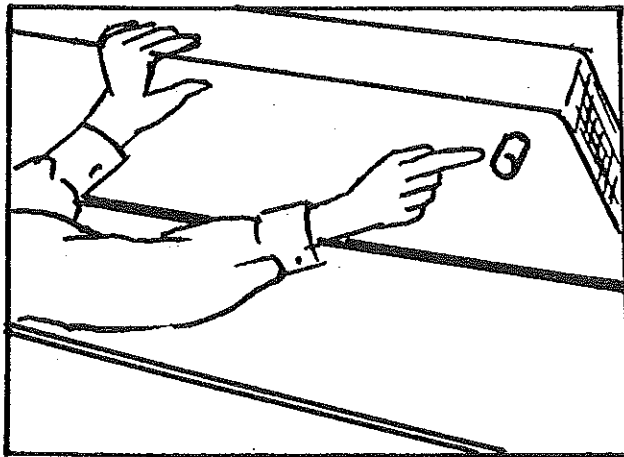

FIGURE 27
38a. On models with a rear dinette (Columbia, Sun Valley, Shenandoah, and Williamsburg), lift the backrest off the dinette table and slide the seat cushion inboard. Set the backrest in place against the side wall. Slide the seat cushion in place, making sure that the plastic stops are wedged firmly against the interior of the metal seat frame. (See Figure 27.)
To lift dinette seat, be certain to push the seat cushion firmly toward the backrest wall before lifting in order to prevent inadvertent damage to the plastic stops. See Figure 27.
14. Remove the backrests from their positions. Slide the seat cushions outboard and place the backrests, cushion side down, on the stored dinette table. See Figure 27.